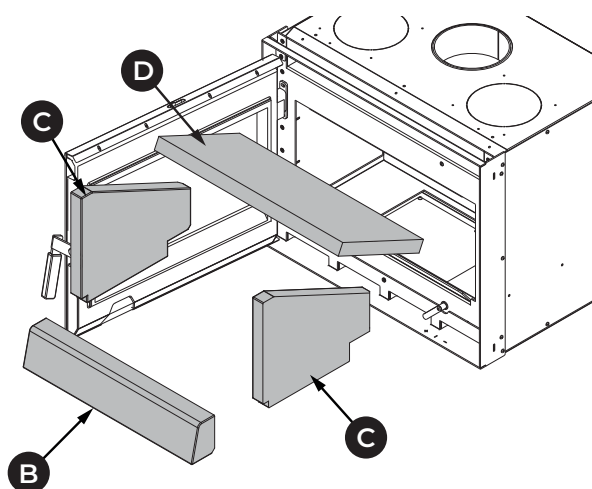

Fig. 8.2
2	Remove, in this order, the back wall (B), the side walls (C) and the upper deflector (D) (Fig. 8.2)